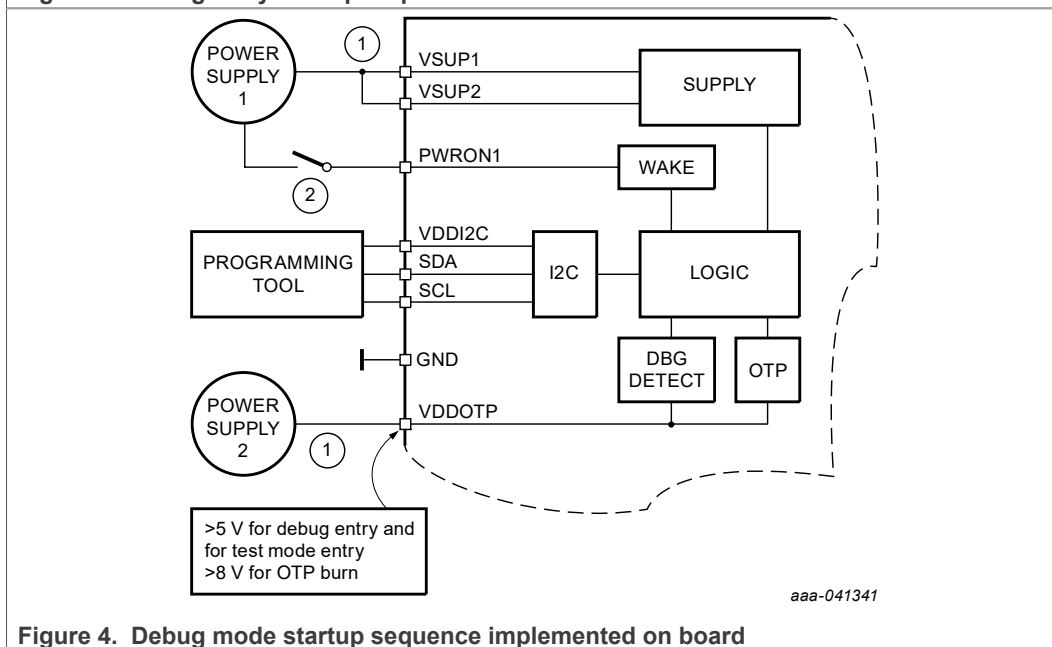

Figure 4. Debug mode startup sequence implemented on board
- The Debug entry startup sequence can be implemented on board by adding an external supply (shown in Figure 4).